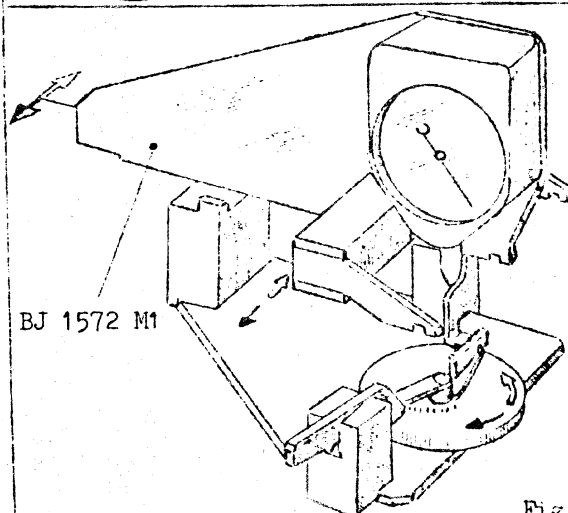

Fig. 2
1.2 Friction torque of the claws on the film (fig. 2)